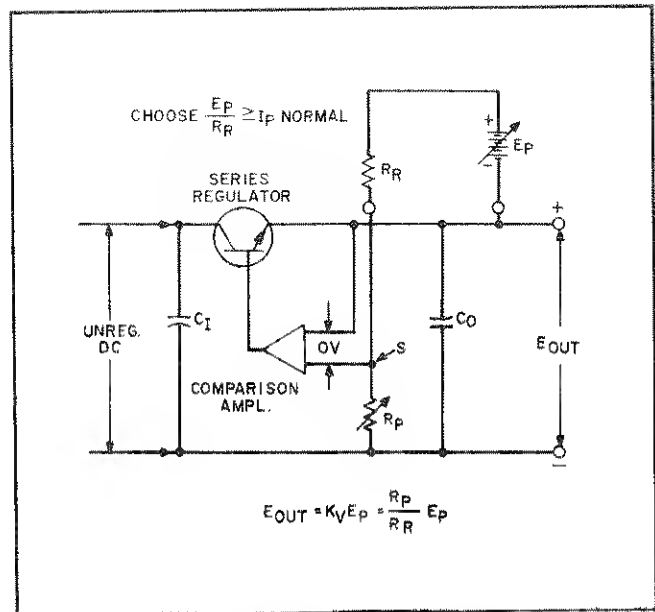
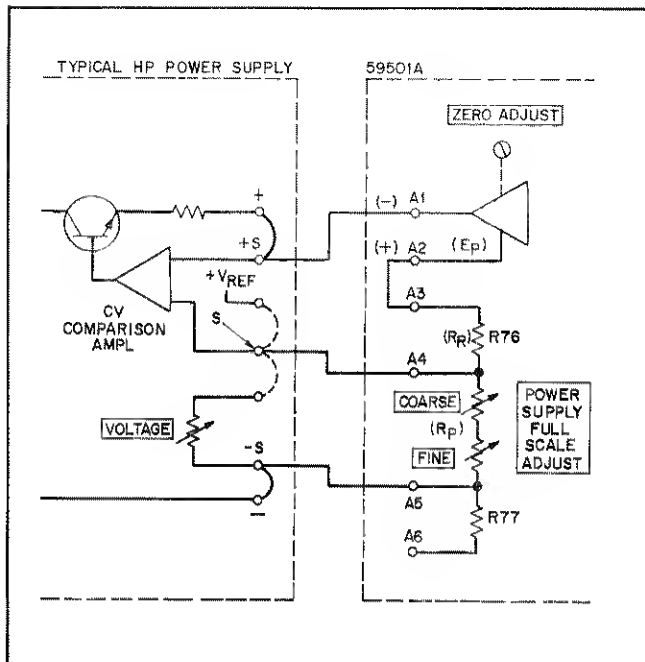

Figure 3-4. Voltage Programming with Variable Voltage Gain
Figure 3-5. Typical Connections for CV Programming
3-41 Figure 3-4 illustrates the method by which a power supply's constant voltage output can be programmed using an external voltage with a voltage gain dependent upon the ratio of R_P to R_R . Note that this method is no different from the circuit normally used for constant voltage control of the output except that an external reference (the programming voltage source) has been substituted for the internal reference. On most supplies, external terminals are available so that the connections shown in Figure 3-4 can be accomplished without any internal wiring changes. In all HP remotely programmable power supplies, the summing point S is made available, and the configuration of Figure 3-4 can always be accomplished using the external programming voltage source E_P and external precision wire-wound resistors R_P and R_R . (R_R should not exceed 10k.) As indicated by the equation in Figure 3-4, R_P can be selected so that the resulting voltage gain is either less or greater than unity. It is possible to use the front panel control on the supply as the voltage gain control R_P .
3-42 Constant Voltage. Figure 3-5 illustrates the connections required for the 59501A to program the constant voltage (CV) output of a typical HP power supply. Note the similarities between Figures 3-4 and 3-5. The 59501A includes R_R (R76), R_P (COARSE and FINE POWER SUPPLY FULL SCALE ADJUST), and E_P (59501A output between terminals A1 and A2). The extra resistor (R77) between terminals A5 and A6 is used only when programming power supplies above 300 volts.
3-43 As shown in Figure 3-5, the supply's internal reference voltage ($+V_{REF}$) and VOLTAGE control are disconnected (dotted lines) and are replaced with the 59501A's output voltage and POWER SUPPLY FULL SCALE ADJUST. Note that in the unipolar mode, 59501A output terminal A1 is negative with respect to A2. This polarity must be complied with when making connections. The connections shown in Figure 3-5 are typical for most supplies.